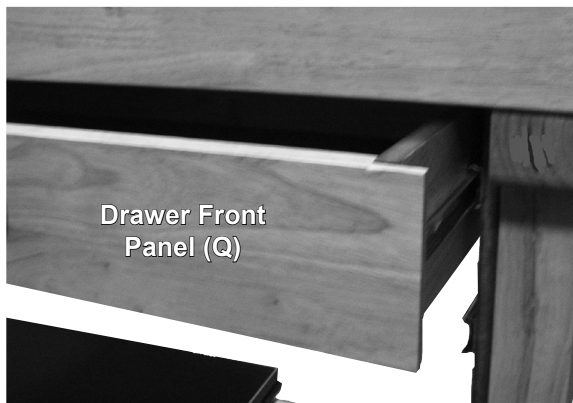

Figure 17
21. Slide Drawers into tracks along Sliding Partition and insides of the Legs. See Figure 17, below.